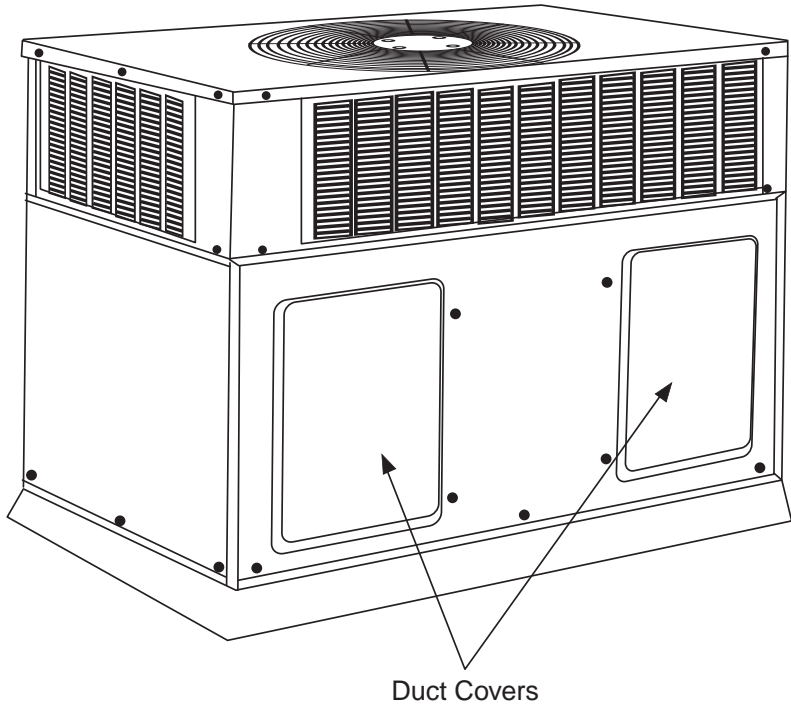

Fig. 10 - 607C with Duct Covers On (Shown with optional louvers)
4. Reinstall the horizontal duct covers (Fig. 10) to block off the horizontal air openings.